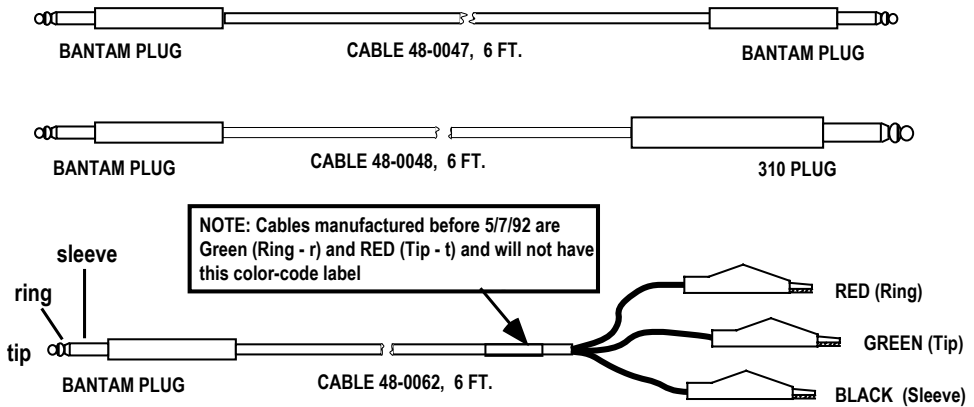
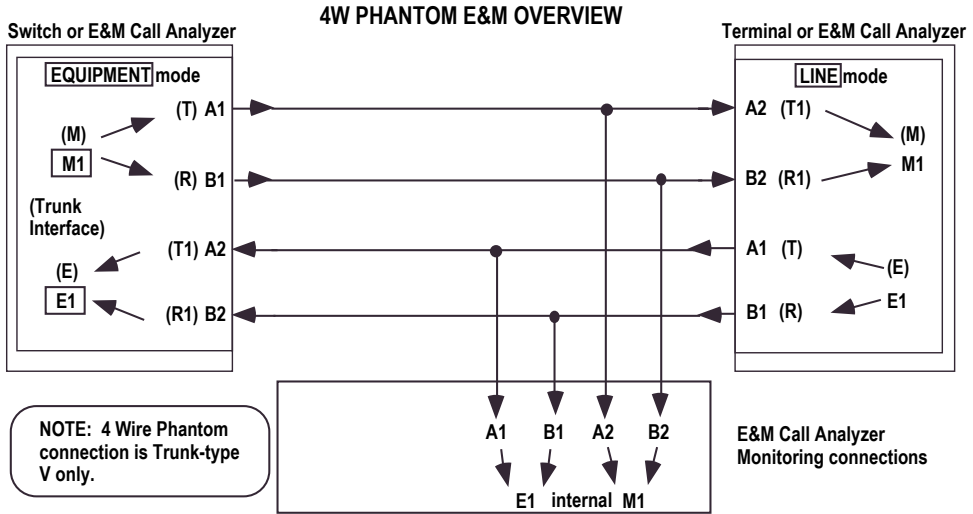

Figure 1. 2- and 4-Wire E&M Connections
Figure 2. 4-Wire Phantom E&M Connection
Figure 1 shows the interfaces between terminal signaling equipment and a Central Office Switch trunk interface using 2-Wire E&M, 4-Wire E&M, or 4-Wire E&M² connections. Figure 2 shows 4-Wire phantom E&M. The figures illustrate the positions of the E&M Signaling Adapter to emulate or monitor the terminal or switch. Both commonly-used circuit identifications "(T), (R), (T1), (R1), (E), (M)" and E&M Adapter signal labeling on the front panel "A1, B1, A2, B2, E1, M1" are shown in these illustrations.